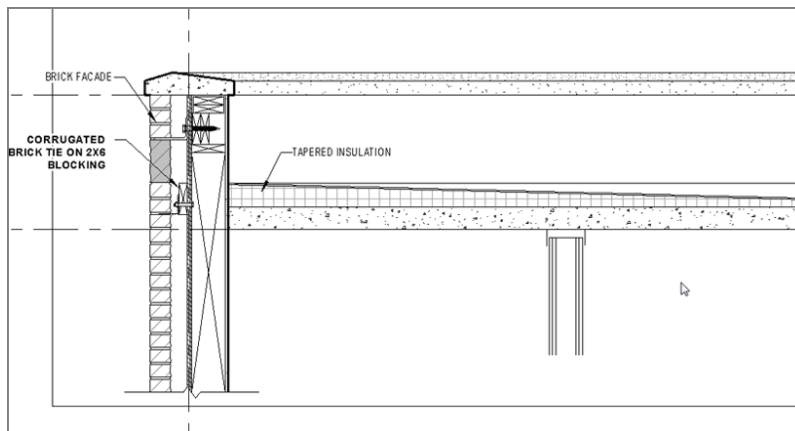

FIGURE 12.68: The slip track without the filled region
7. Save the model. Your detail should now look like Figure 12.68.